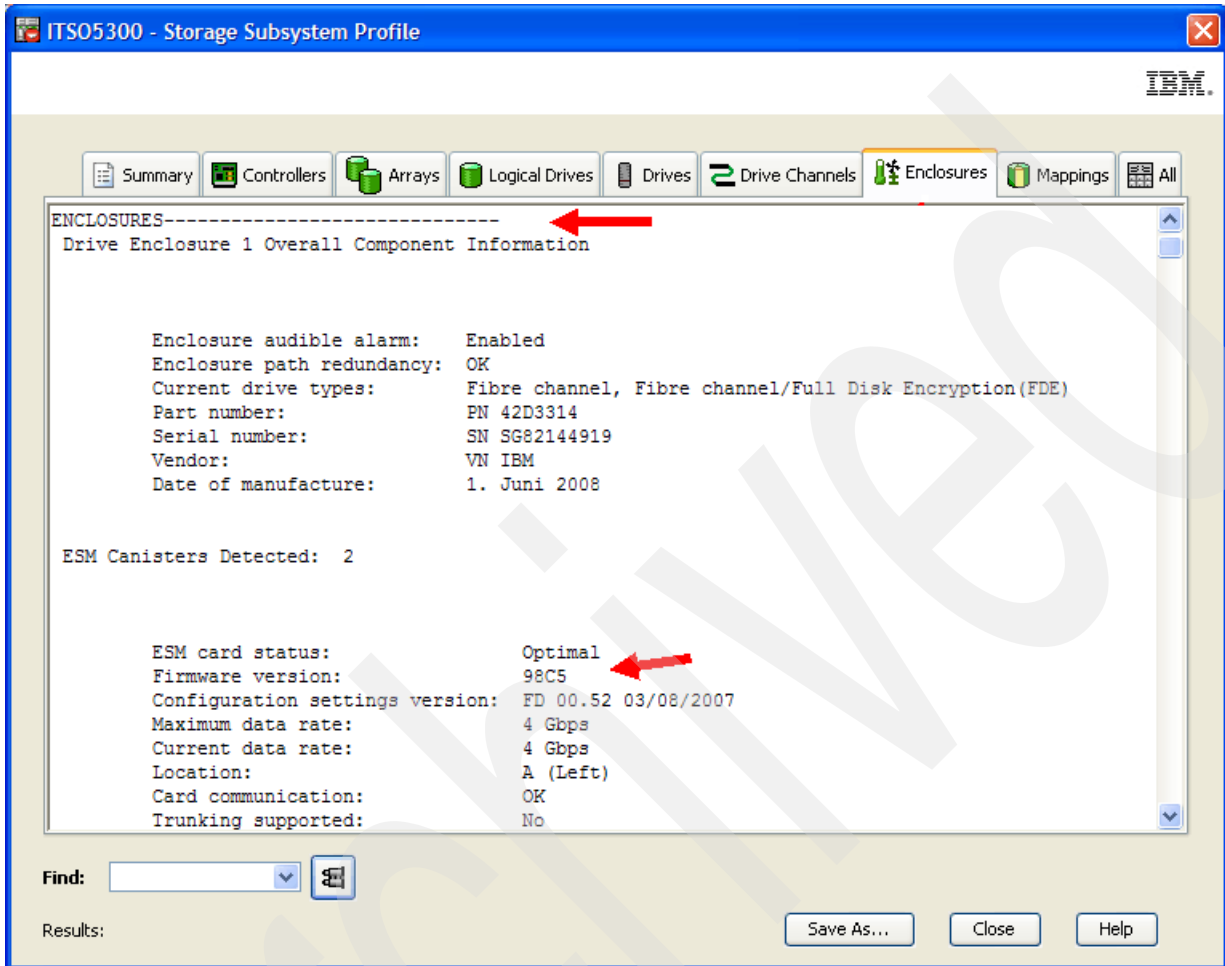

Figure 7-2 Viewing ESM firmware
3. Click the **Enclosures** tab to see the ESM current firmware level. As shown in Figure 7-2, you have to use the scroll bar to show all of the ESM firmware (two per enclosure), as shown in Figure 7-2 by the pointers.